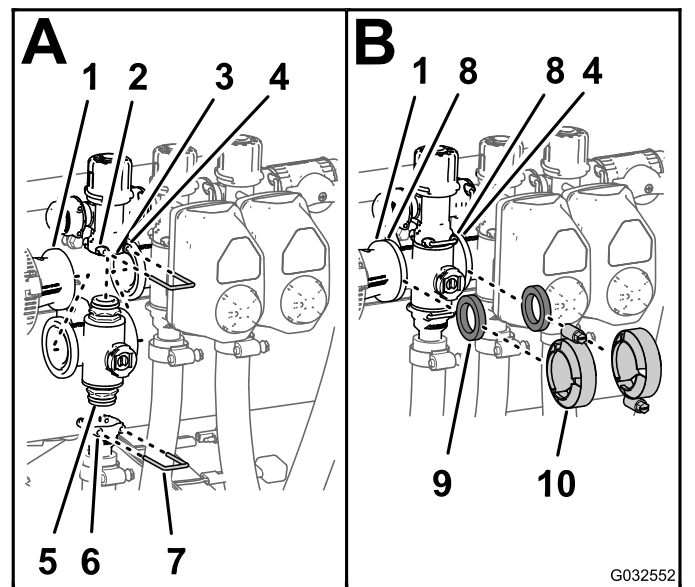

Figure 116
1. Insert the upper end-cap fitting of the manifold valve into the bypass fitting (Figure 116 A).
2. Secure the end-cap fitting to the bypass fitting by inserting a retainer into the socket of the bypass fitting (Figure 116 A).
3. Assemble the outlet fitting onto the lower end-cap fitting of the manifold valve (Figure 116 A).
4. Secure the end-cap fitting to the outlet fitting by inserting a retainer into the socket of the outlet fitting (Figure 116 A)
5. Align a gasket between the flanges of the reducer coupling and the section-valve manifold (Figure 116 B).
6. Assemble the reducer coupling, gasket, and section-valve manifold with a clamp tightened hand-tight (Figure 116 B).
7. If installing the 2 left most section valves, align a gasket between the flanges of the 2 adjacent section-valve manifolds (Figure 116 B).
8. Assemble the and 2 adjacent section-valve manifolds and gasket with a clamp and tighten the clamp by hand (Figure 116 B).